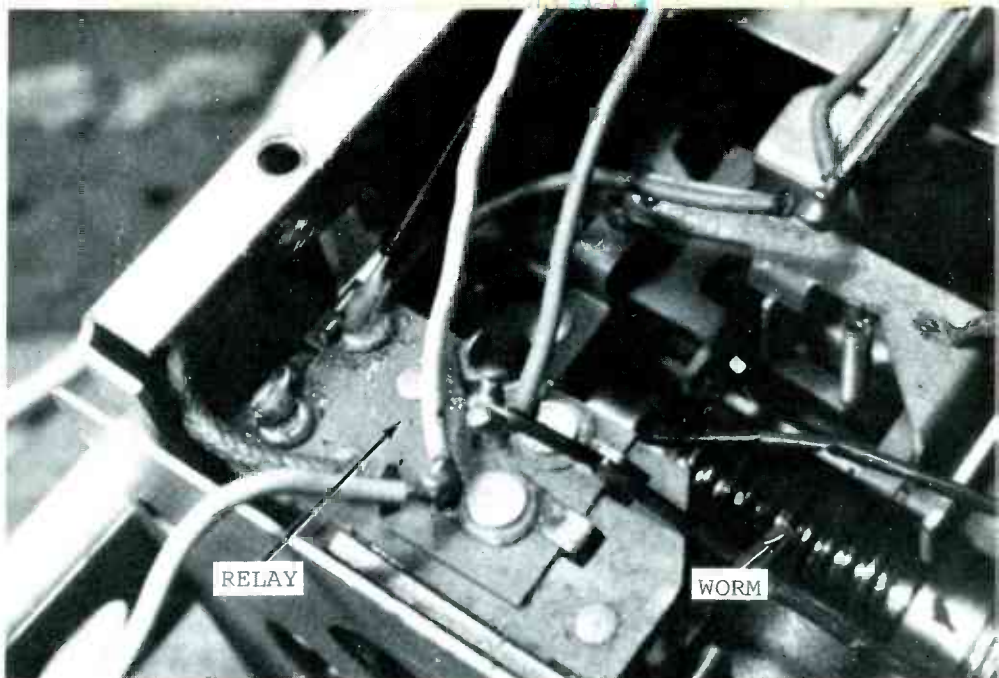

Fig. 2 The relay and the worm in the Delco radio can be seen easily when the cover is removed. Other components are located more deeply inside.
Fig. 2 Variations of video IF alignment curves. (A) A normal flat-top video IF curve showing the marker frequencies. (B) Some newer generators with post-injection of the markers can apply the markers laterally, as shown. They are easier to see when the skirts are steep. (C) Reduce the sweep width and readjust the center sweep frequency to produce a close-up of the chroma side of the video IF curve. The 41.67 Hz, 42.17 MHz, and 42.67 MHz markers should be evenly spaced in a straight line.
When the "search" switch (operated by a bar on the front of the radio) is pressed, the negative end of the winding of the control relay K1 is grounded. (See Fig. 2 for location of the relay.) Current flows through the coil of the relay, holding the armature down, pulling the paddle away from the governor, and closing a contact which supplies voltage to the trigger stages. When the bar is released, control of the relay is taken over by current flowing through Q3, the relay-control transistor, because the radio is now off station. The relay should remain energized until an incoming station signal cuts off Q3.